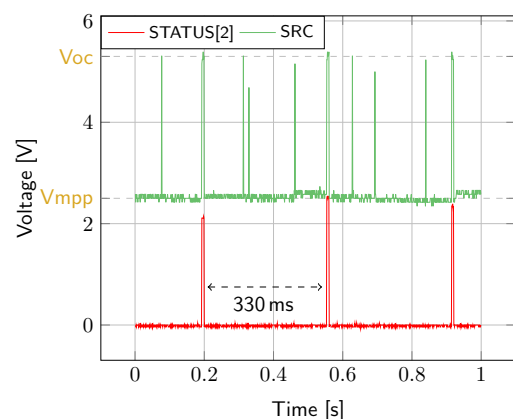

Figure 3: **SRC** and **STATUS[2]** while energy is extracted from **SRC** (**BATT** under **Vovch**)
- **STATUS[2]**: Asserted each time the AEM30940 performs a MPP evaluation (see Figure 3).